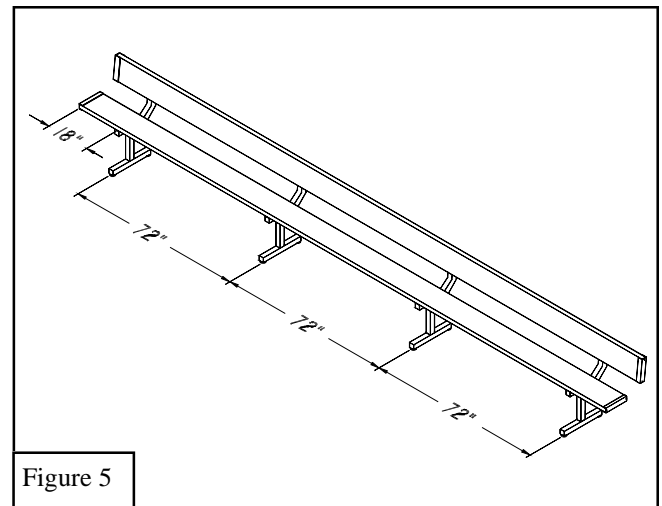

Figure 5
2. Place one *Leg Assembly (B)* 18" from each end. Position the remaining two *Leg Assemblies (B)* 72" from outside *Leg Assembly (B)* as shown. See Figure 5.